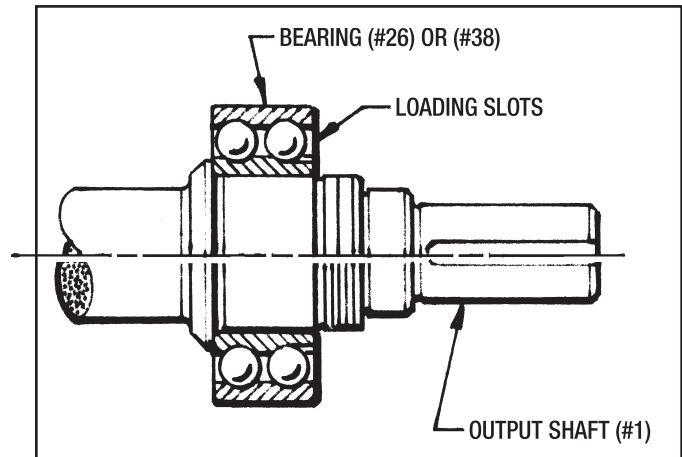

Figure 9.1 - Installing Outboard Bearing (#26 or #38)
**Outboard Bearing (#26 or #38) must be installed with the Loading Slots towards the output end of the shaft.** (See Figure 9.1)